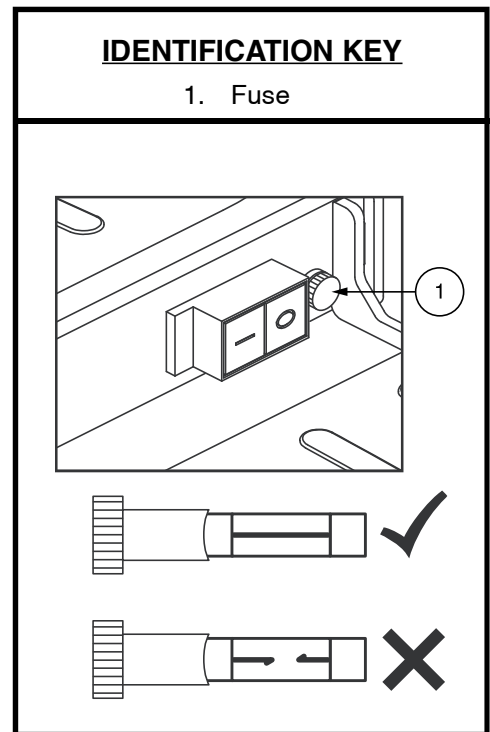

Figure 20. Fuse Replacement
2. Examine the fuse in the fuse holder. See **figure 20**. If the fuse is blown, it needs to be replaced.